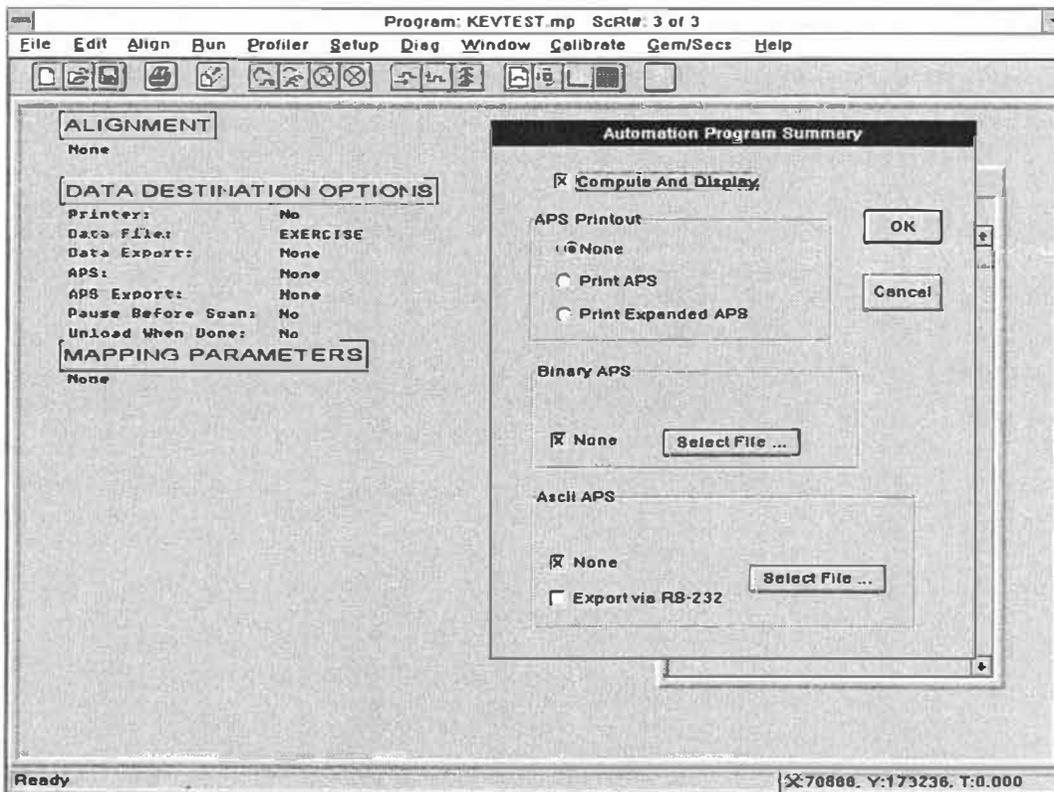

Figure 5-11. Automation Program Summary Dialog Box
2. Click-on the line labeled "APS" from the Data Destination Options to display the Automation Program Summary dialog box (see Figure 5-11).